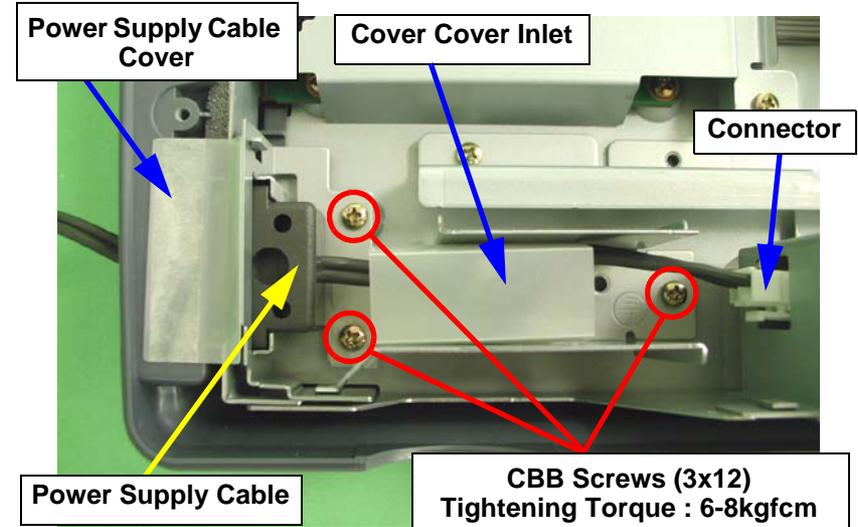

Figure 4-34. Power Supply Cable Removal (1)
4. Remove the three screws (CBS, M3x5), and the disconnect the lock-type connector (CN1) from the power supply circuit board. (See Figure 4-34)
5. Remove the power supply cable cover. (See Figure 4-34)